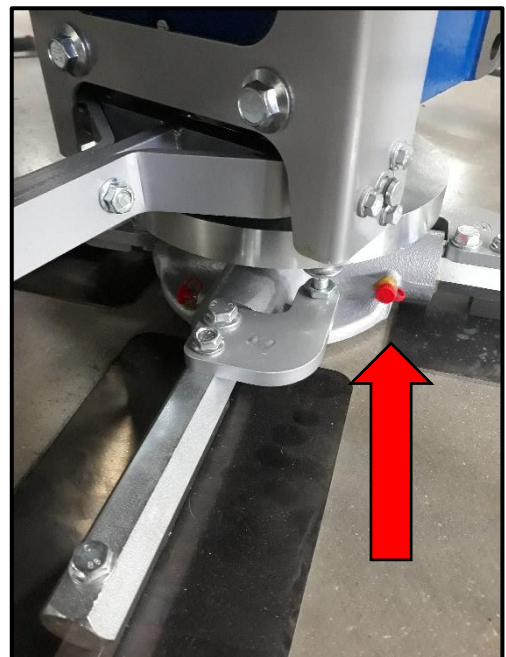

Figure 10.6.1
- ✓ Locate one of the Zerk grease fittings on either spider assembly (fig. 10.6.1). Remove the Zerk fitting cap and set it aside.